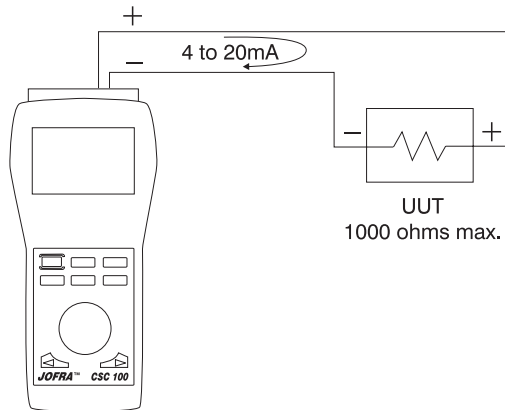

Figure 2
Figure 2 shows how to connect the CSC100 to source current.
1. Set the CSC100 to source or simulate current. See figures 2 & 3.